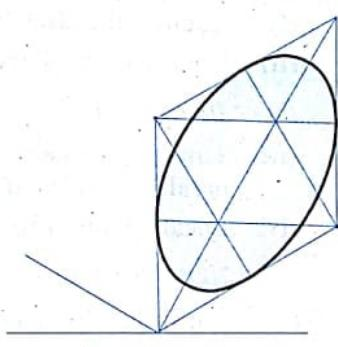

FIG. 6.12 (f)
4. Taking centres P and Q and radius, r draw one fourth arcs of ellipse with each centre as shown in figure 6.12 (d).